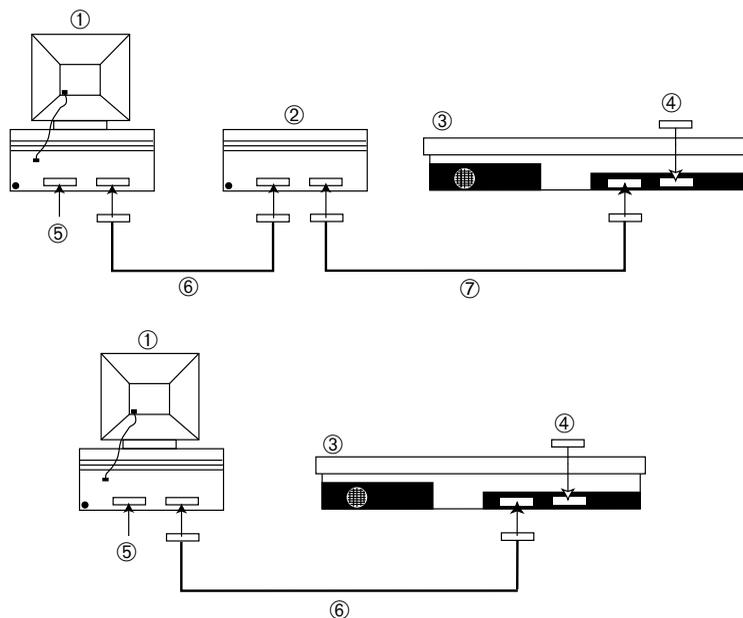

Figure 1-4
SCSI system cable: Use this cable if the Scanmaster 2500 is the only SCSI device connected to your Macintosh. Refer to Figure 1-4.
SCSI peripheral interface cable: Connect this cable to the last device in the SCSI chain if more than one SCSI device is connected to your Macintosh. Refer to Figure 1-4.
3. Connect the SCSI cables as outlined below, depending on your configuration. See Figure 1-4.